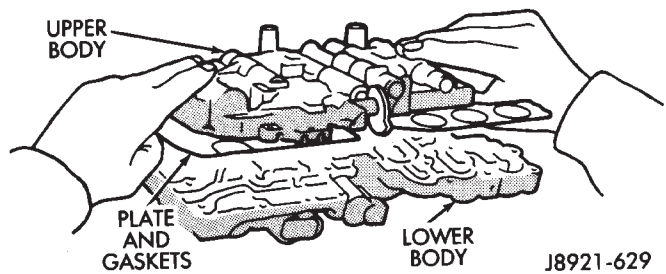

Fig. 6 Upper Body, Plate And Gaskets
(4) Carefully lift and remove upper body, plate and gaskets from lower body (Fig. 6).
(5) Disassemble and overhaul upper and lower body sections as outlined in following procedures.